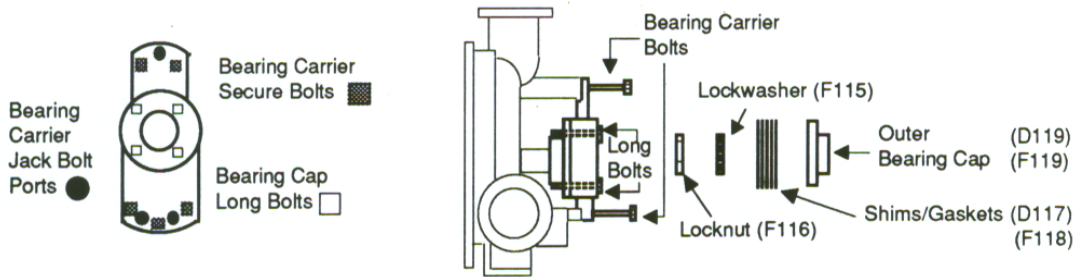

Figure 12. Removal of bearing carrier
1. Remove the bearing from the shaft (see Figure 12.)